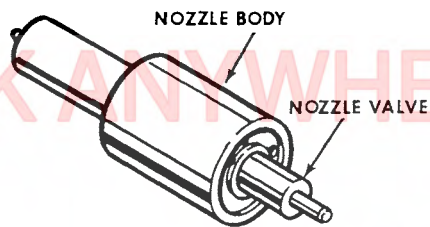

Figure I-15
1. Usually the nozzle valve can easily be pulled out of the nozzle body with the fingers, Figure I-15. In some cases, however, it may be necessary to soak the nozzle assembly in carbon solvent, such as Bendix Speed Clene, Figure I-16, before removal is possible. Place clean soft rag or felt pad in the bottom of the solvent container to prevent the polished surfaces of the nozzle from coming into contact with the metal container. Do not place any other parts in the container.